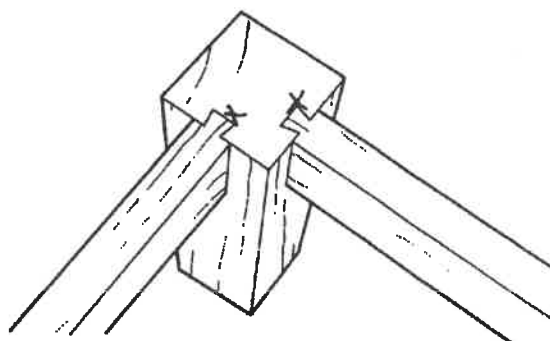

Fig. E-13
19. Re-fit the rails in the leg. If they still protrude above the leg, raise the bit in 1/2 turn increments, then repeat Step 18 until the rails are level with the top of leg, as shown in Fig. E-13.